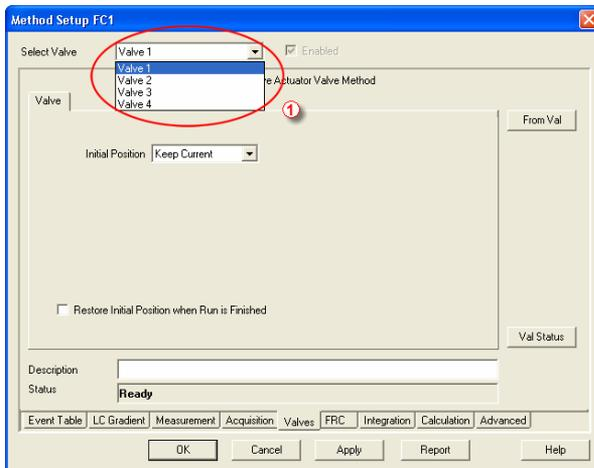

Fig. 30. Method Setup - Valve
- New type of control module - Valves – is now supported. The control module is available for all Clarity Instrument types. After configuration, a new **Valves** tab will appear in the **Method Setup** dialog for each configured module. In case the module supports the simultaneous control of several valves on common communication line, you can select between them using the listbox ① in the tab header area (as shown on **Fig. 30**). The tab allows for the initial valve settings, when the instrument method is sent to devices.